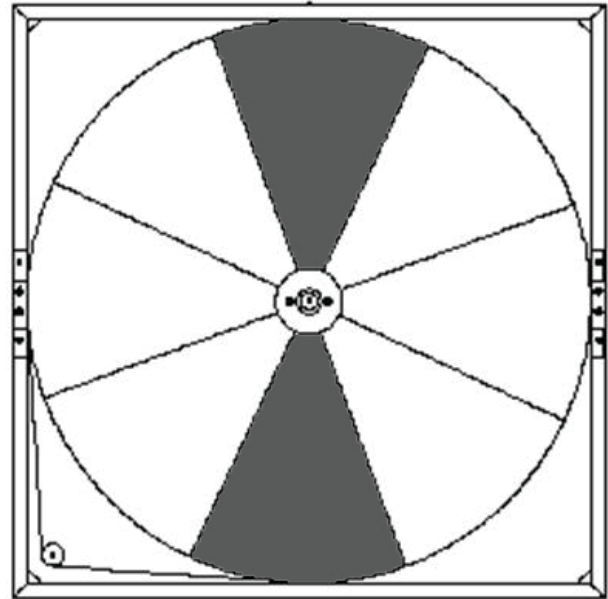

Fig. 33 — Remove/Install Opposing Segments (36 to 86 in.)
Remove or install opposing segments to minimize wheel imbalance. See Fig. 33 for opposing segment removal or installation example.
8. Slowly rotate wheel 180-degrees and remove the opposing segment to re-balance the wheel. See Fig. 33 for removal example.
5. Rotate first segment 180-degrees and install the opposing segment to rebalance the wheel. See Fig. 33 for example of installing opposing segments.
6. Repeat until all of the remaining segments are installed, ensuring balance throughout the procedure. See Fig. 33 for example of installing opposing segments.